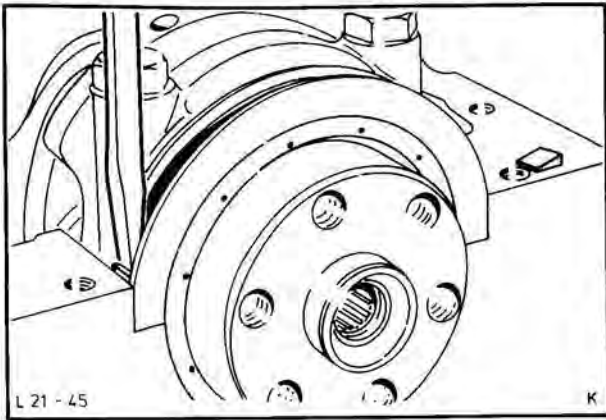

Fig. 102. Press in rear main bearing cap inserts, using **blunt** screwdriver
36. Coat rear main bearing cap inserts with sealing compound (Part No. A 70SX-19554-BA) and press in, using a **blunt** screwdriver, Fig. 102. Rounded face of dowel bush has red mark and should be fitted pointing towards bearing cap.